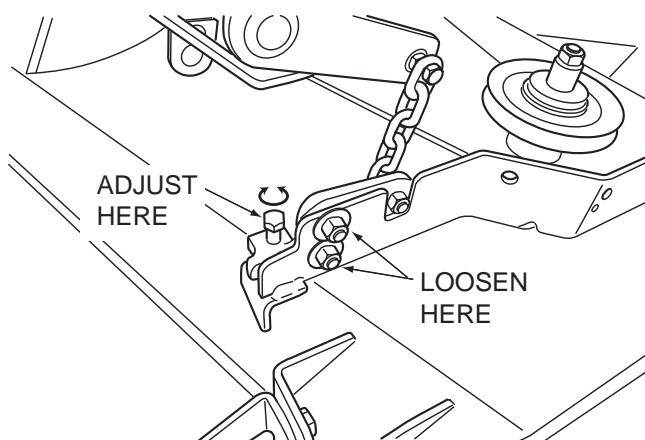

Figure 6-4. Cutter Deck Adjustment
1. On the front LH side of the cutter deck locate the cutter deck level adjusting bracket (See Figure 6-4).